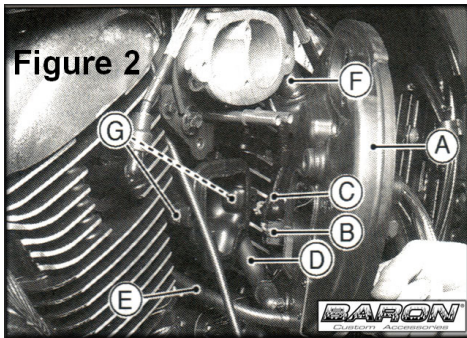

Figure 2
- *Remove crankcase vent from rear of the backing plate. (D on Fig 2)
- *Disconnect electrical connection to the valves. (B on Fig 1 and C on Fig 2)
- *Remove Inlet Air Temperature Sensor from backing plate. (B on Fig 2)